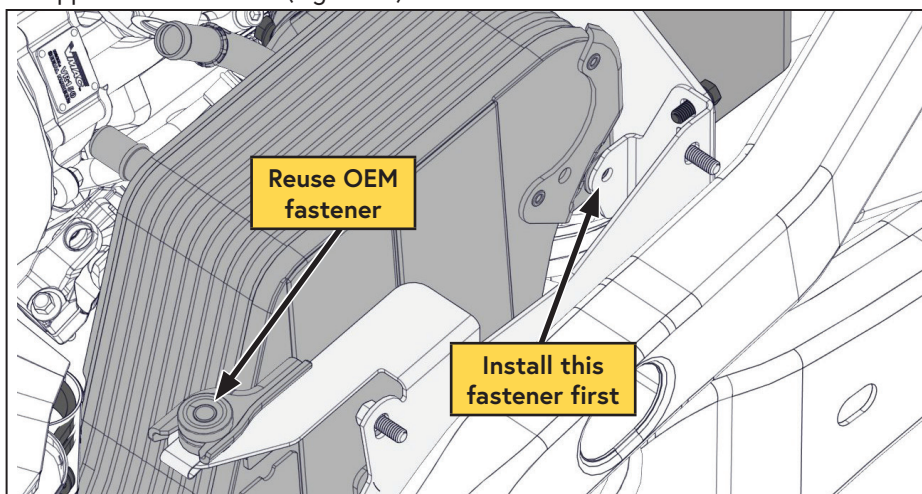

Figure 88 — Installing the CAC
- ☐ Secure the CAC to the CAC relocation bracket. Install the fastener nearest the firewall first using a VMAC supplied fastener. Reuse the OEM fastener in the upper mount location (Figure 88).